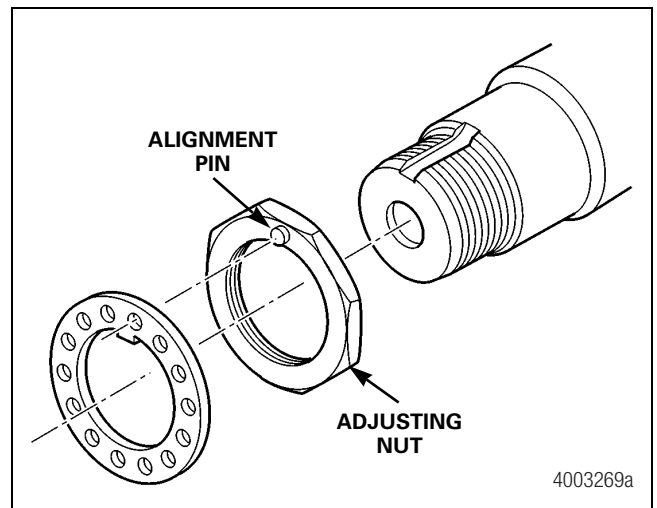

Figure 9.6
- On manual adjust axles, the inner nut of the wheel retention hardware has an alignment pin. Figure 9.6.